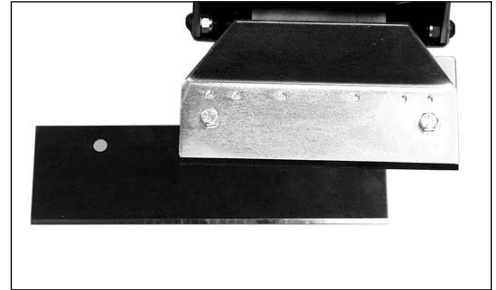

FIG. 8
- Blades can be offset in the cutting head for easier access to toe kicks or for removal along the wall (Figure 8).